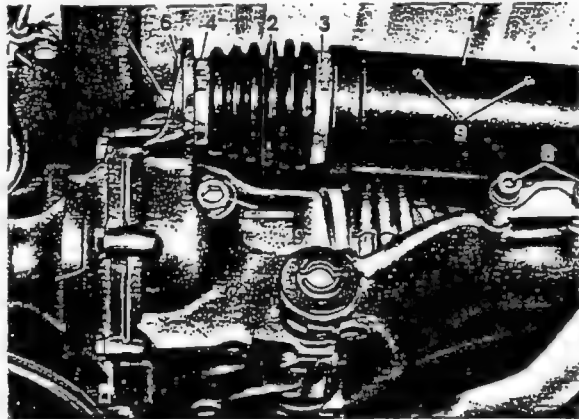

Fig. 32-7/3
3. Unscrew hexagon nut (7), pull out compensating spring and remove bearing ring (5) (Fig. 32-7/4).
4. Check whether bearing ring (5) is still serviceable and install it in the rear axle housing eye in such a way that it is flush with the left face of the eye (Fig. 32-7/5).
5. Install the compensating spring making sure that the washer (6) is properly seated. For tightening torque of polystop hexagon nut (7) see Job No. 32-0.